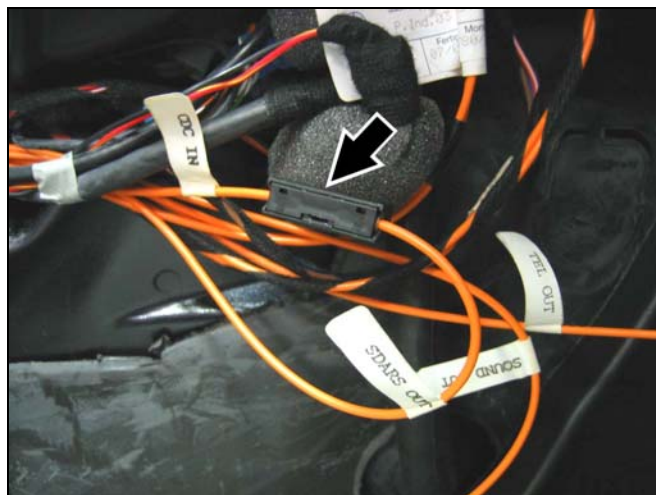

Figure 22
3. At the exposed transmission tunnel area, find the MOST couplings and configure the MOST ring (Figure 22) according to Figure 39.